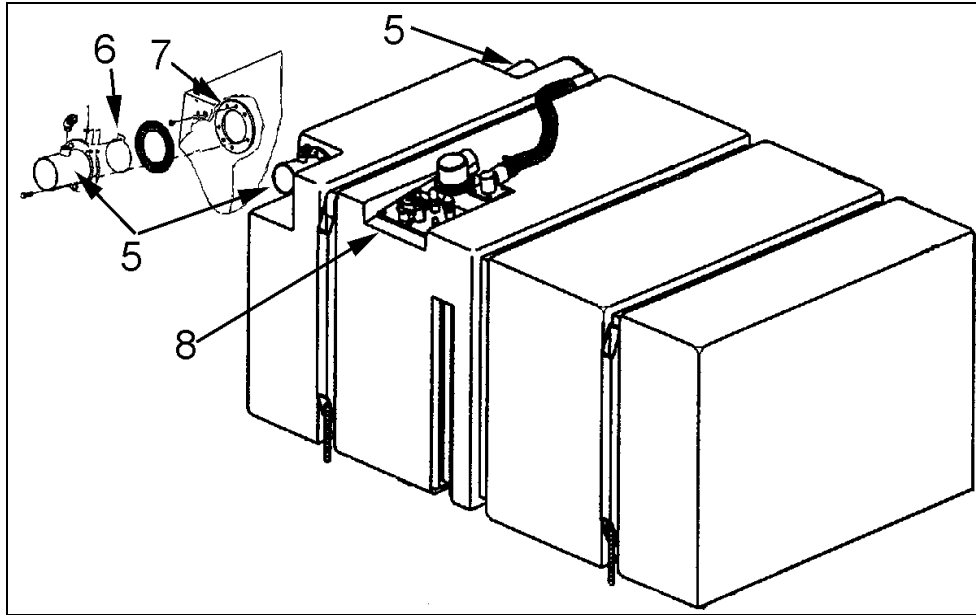

FIGURE 8 : ⑤ FILLER TUBE FITTINGS, ⑥ EXISTING CHECK VALVE, ⑦ INTERNAL FLANGE,
6. Remove fuel return line from R.H. side filler tube fitting (item ⑤ figure 8) and remove the filler tube fittings from the tank.
7. Remove existing check valve inside filler tube fittings (⑥ figure 8).
10. Remove connection panel (item ⑧ figure 8).
⑧ CONNECTION PANEL
11. Secure the internal flanges (item ⑦ figure 8) with a nylon tie then unscrew their fixing bolts. Remove the flanges from the tank using the opening of the connection panel.
17. Fix the ball check valve in place by attaching it to the filler tube fitting (item ⑤ figure 8).